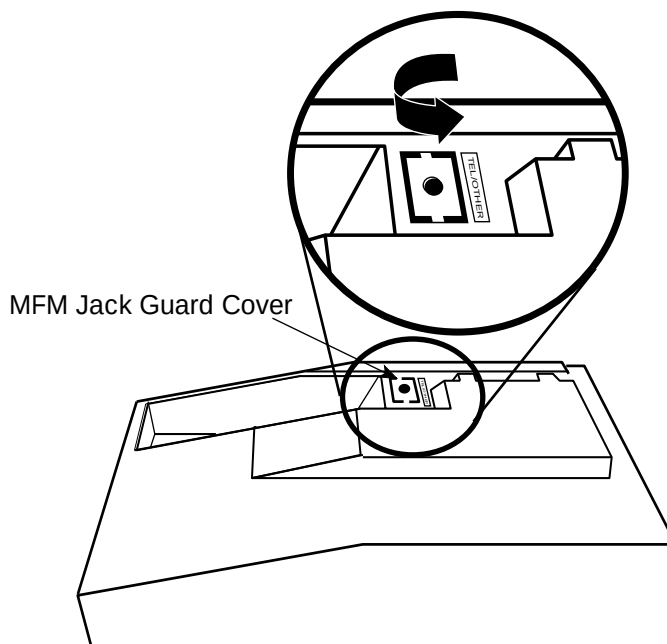

Figure 3-11. Removing the Jack Guard
- 7. To remove the jack guard, see Figure 3-11.